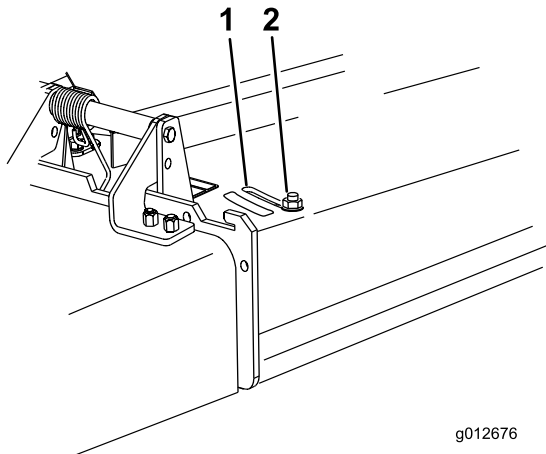

Figure 27
3. To adjust the baffle, loosen the nut (Figure 27).